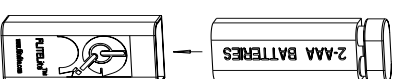

Figure 4
6. Insert the batteries and connect the battery pack to the wire lead—see *Figure 4*.